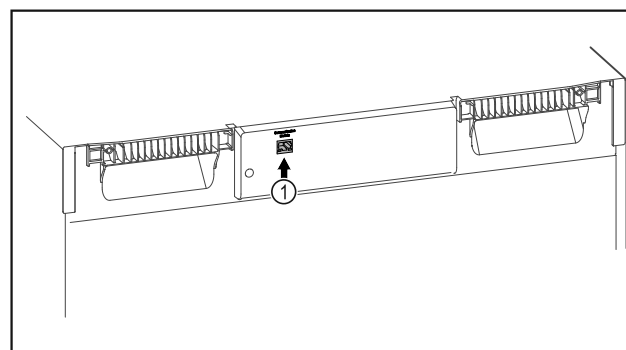

Fig. 121
- ❑ SmartModule Fig. 121 (1) is in use.